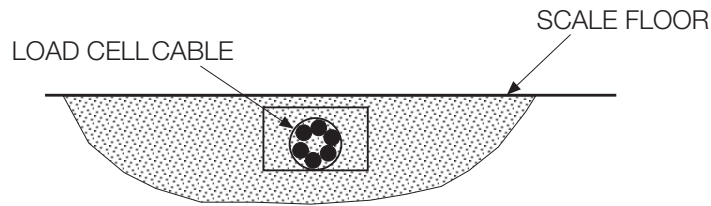

Figure 2-3. Load Cell Protection
7. The cable must be routed to the indicator in a manner that will protect the cable from damage. This method of cable protection in non-washdown applications are shown in Figure 2-3. When planning cable routing, leave a loose coil of excess cable under the scale to facilitate future lifting of the scale for